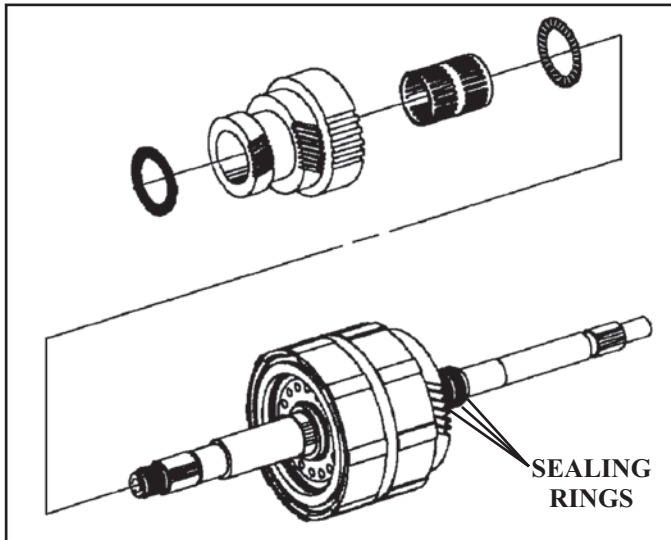

Figure 86
1. Remove and inspect the 2nd/reverse single sided needle bearing thrust washer (See Figure 86).
2. Remove the 2nd/reverse gear and inspect the teeth and needle bearing races for wear, chipping or pitting and replace if necessary (See Figure 86).
3. Remove and inspect the 2nd/reverse needle bearing cage from inside the gear (See Figure 86).
4. Remove and inspect the 2nd/reverse double sided needle bearing thrust washer (See Figure 86).
5. Remove and discard the three sealing rings on the opposite side of the shaft (See Figure 86).